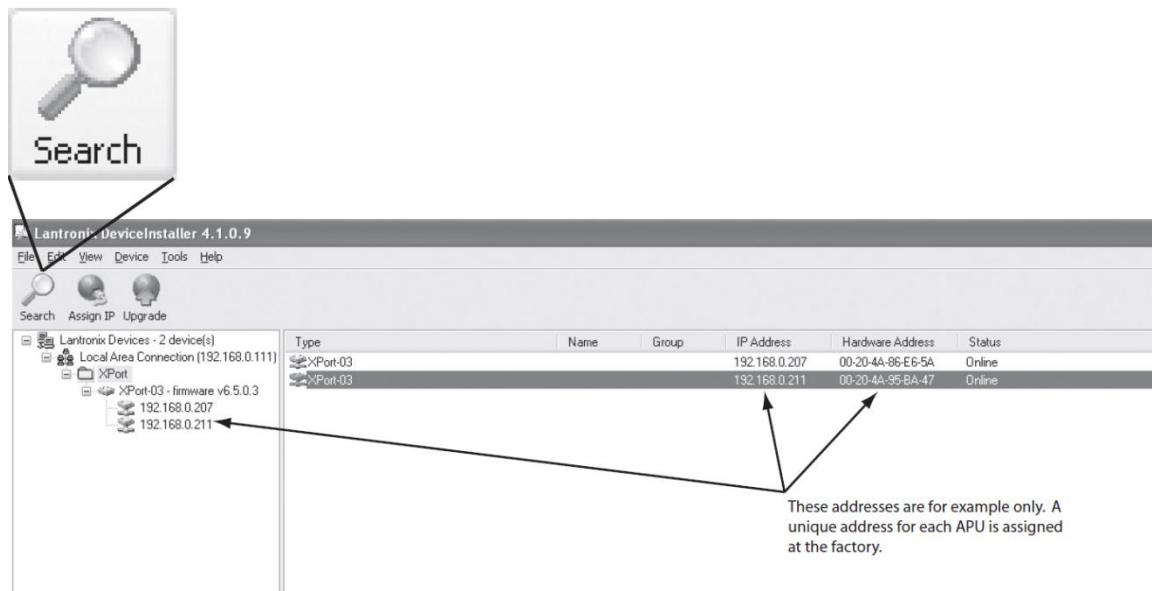

Figure 22: Lantronix® DeviceInstaller screen with XPort devices and the Search Button identified.
4. The software may automatically detect XPort devices. If not, clicking the Search button (figure 22) will allow the program to locate and display the XPort connected devices (see figure 23).
The MAC address (or hardware address) of the APU is found on a removable label, which covers the RJ45 connector upon shipment from the factory. It also appears on the serial number label of the APU (the Hardware Address noted in figure 22).